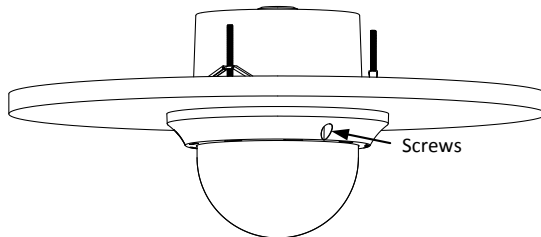

Figure 2-13 Secure the Bubble
- 4) Secure the bubble to the back box with three screws as shown in Figure 2-13.